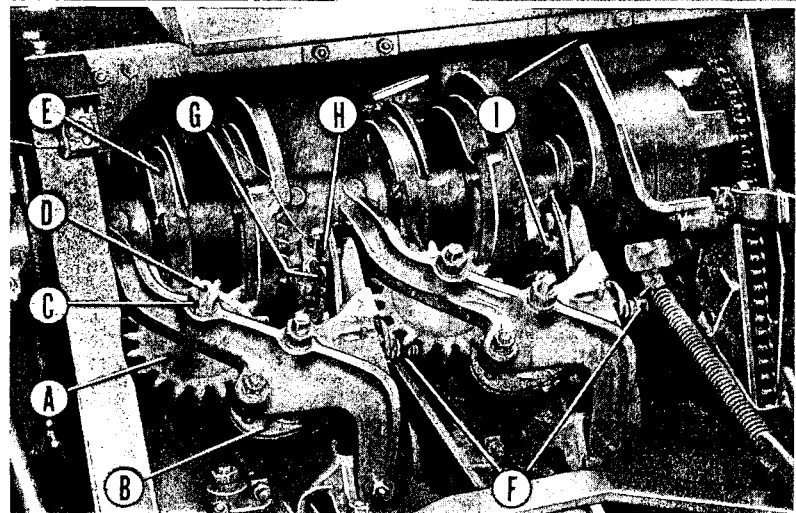
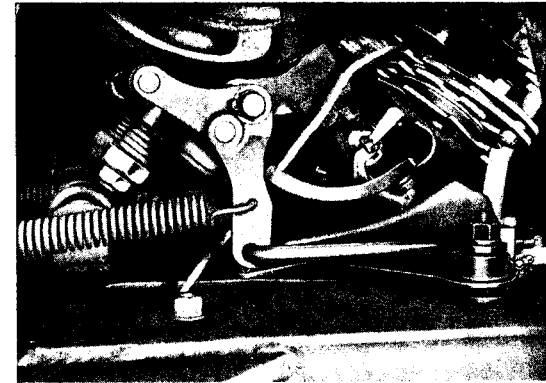

Fig. 34
Fig. 35
This is important, and it should be noted that this is the **only** correct twine disc positioning. If the twines are not gathered cleanly by the bill hook the disc may be required to be advanced or retarded which may be done by turning the eccentric stud, item D, fig. 34.
The grip is increased by tightening up setscrew (H) fig. 34. Too loose an adjustment will allow the twine to be pulled out of the grip when the bale is being formed. Too tight an adjustment will not allow the twine to be partially withdrawn from the grip while the knot is being formed.
The bill hook jaw cam closes the jaw of the bill hook as shown in fig. 35 to ensure that ends of the twine are firmly held during stripping of the knot. The grip of the jaw may be tightened or loosened by adjusting the pressure of the spring (F) fig. 34 which acts on the cam. Prior to any adjustment make sure that the jaw is free to move in the bill hook. If trouble is being met with in pulling both ends through the knot (or alternatively, one end through, and one end bowed) make small adjustments at any one time.